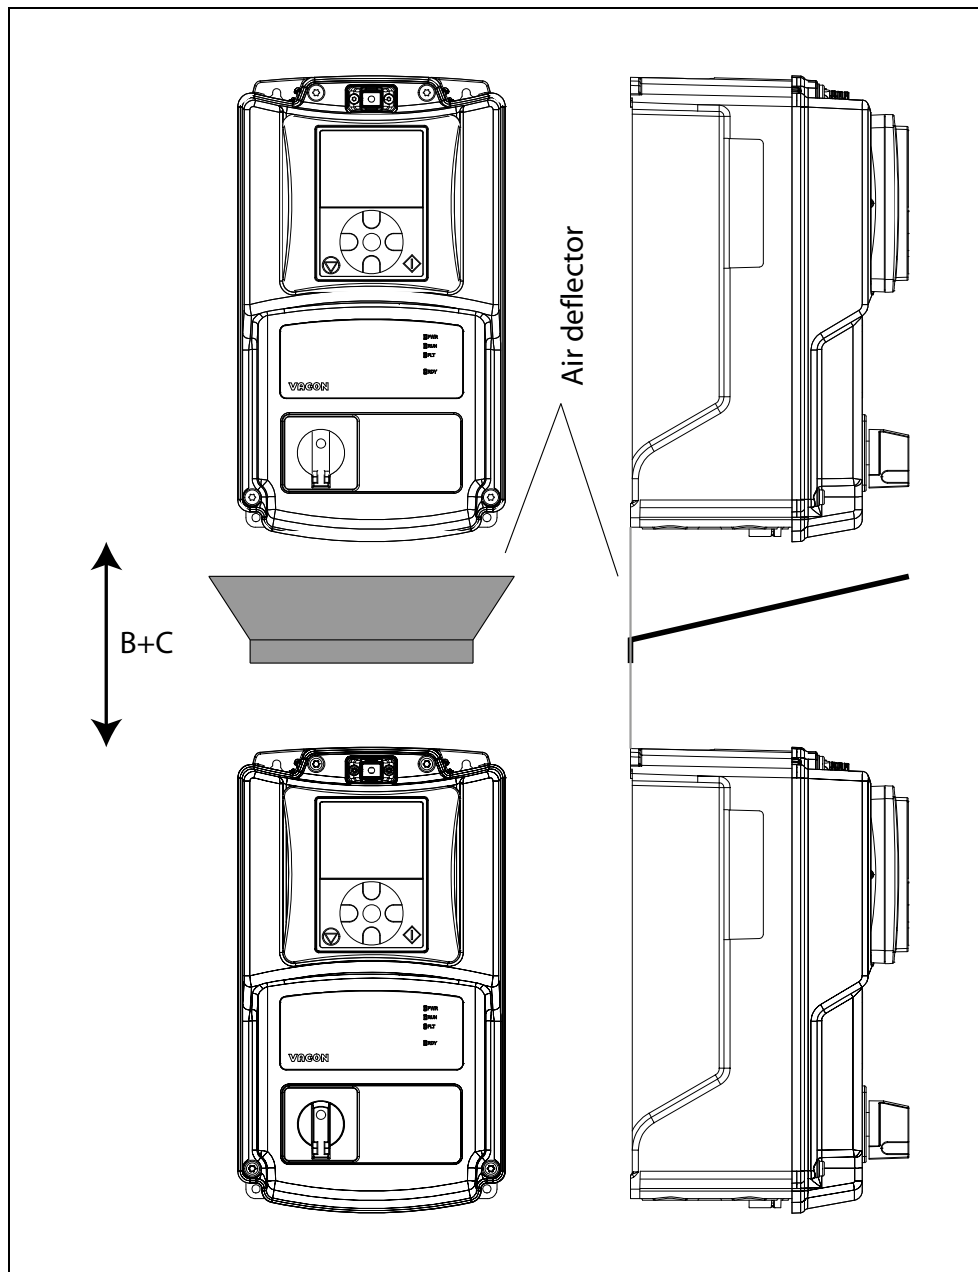

Figure 12. Installation space when drives are mounted on top of each other.
**NOTE** that if several units are mounted **above** each other the required free space equals B+C (see the Figure 12.). Moreover, the outlet air used for cooling by lower unit must be directed away from the air intake of the upper unit by means of e.g. a piece of metal plate fixed to the wall between the drives as shown in Figure 12..